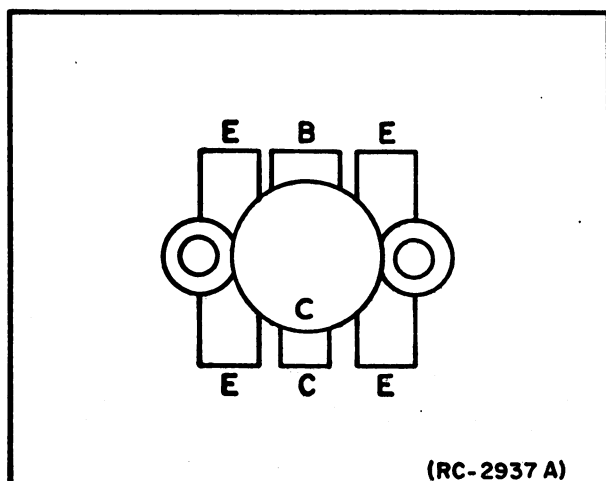

Figure 2 - Lead Identification
4. Trim the new transistor leads to the lead length of the removed transistor. The letter "C" on the top of the transistor also indicates the collector (see Figure 2).